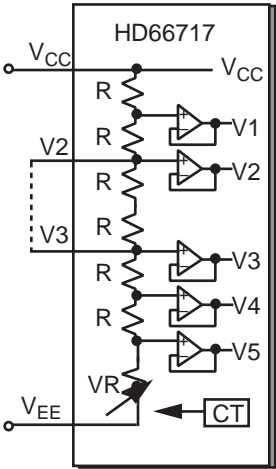

Figure 35 Contrast Adjuster
Contrast for an LCD controlled by the multiplexing drive method can be adjusted by varying the liquid-crystal drive voltage (potential difference between V_{CC} and V5) through the CT bits of the contrast control instruction (electron volume function). See Figure 35 and Table 20. The value of a variable resistor (VR) can be adjusted within the range from $0.4R$ through $6.4R$, where R is a reference resistance obtained by dividing the total resistance between V_{CC} and V5.